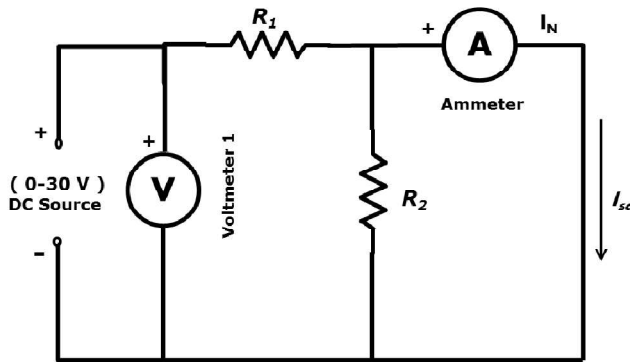

Fig 2: For Norton Current I_{SC} or I_N
4. Replace the R_L with short circuit as per fig.2 and by varying supply voltage V in steps and take reading of I_N